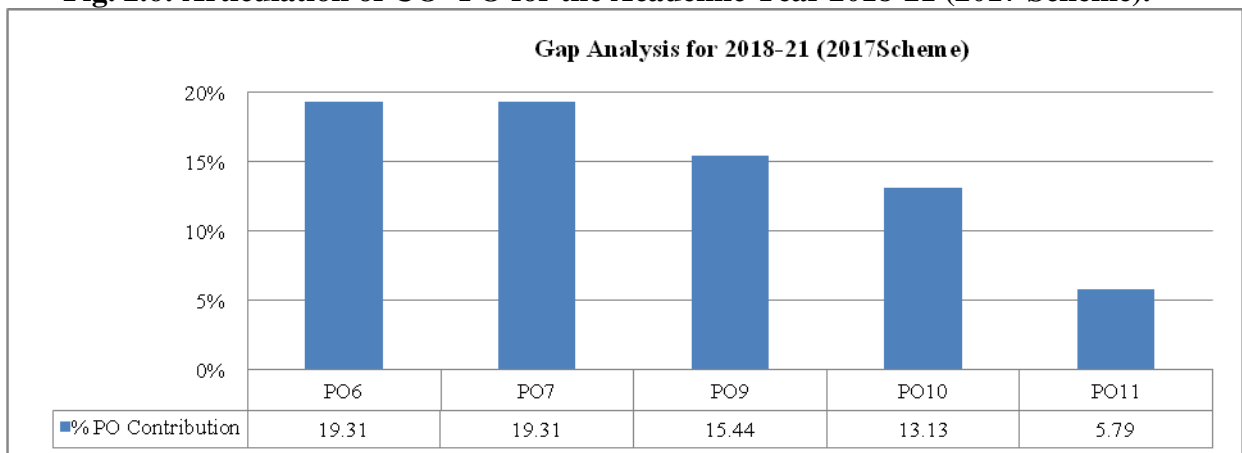

Fig. 2.7: Identified Gap's in Program Outcomes for 2018-21 (2017 Scheme).
Program Assessment Committee (PAC) has identified 20% of 259 number of Course Outcome (CO) contribution to each PO to total number of Course Outcome(CO's) from each curriculum (20% of 259=52 Co's). From the above analysis we have identified Curriculum gap of 2018-21 for 2017 Scheme and the same is represented in figure 2.7.